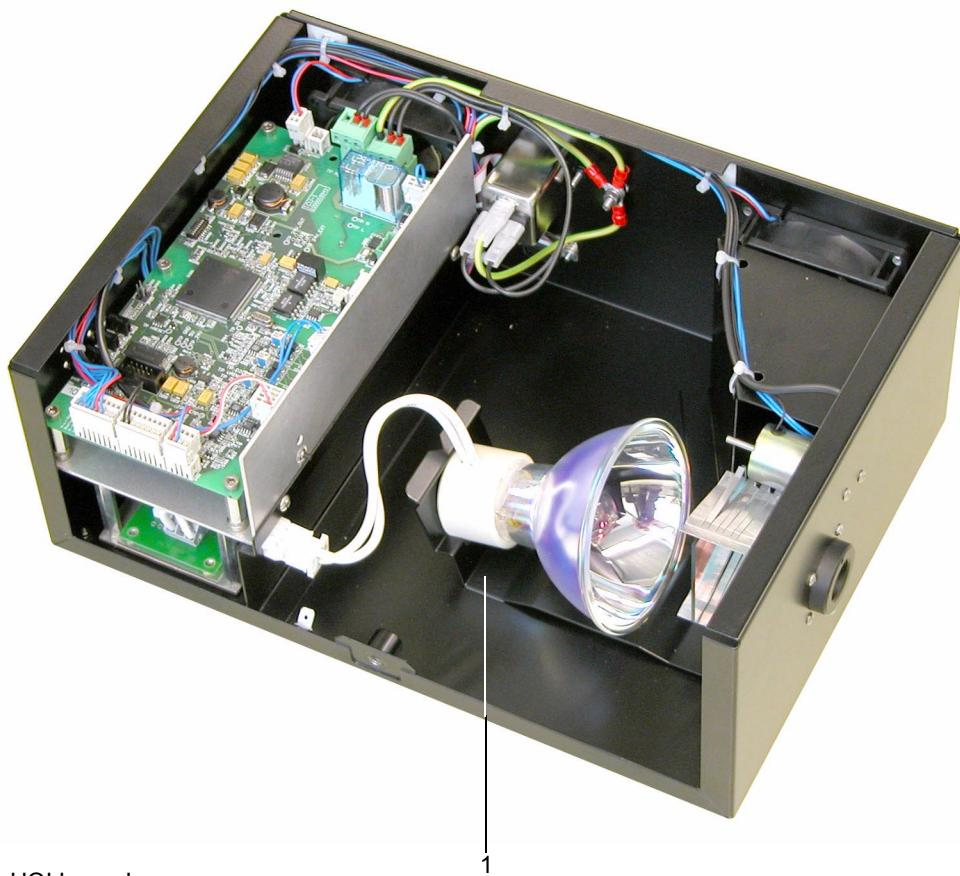
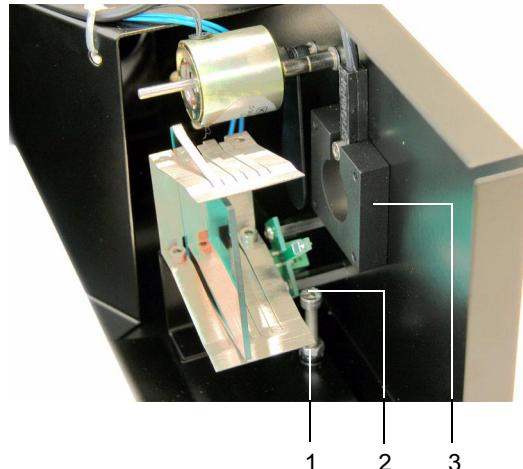

Fig. 14: HQI Lamp Lever
Fig. 15: HQI Lamp Adjustment Screw
Fig. 14: The HQI lamp is mounted on a spring lever (1), which allows adjusting the bulb's height to maximize the intensity of the light. You adjust the lamp with the adjustment screw under the fiber connector (**Fig. 15 (3)**). To adjust the height, proceed as follows.
1. **Fig. 15:** Loosen the lock nut (1).
2. Adjust the height of the HQI bulb by turning the adjustment screw (2) in such a way, that the top surface of the spring lever (Fig. 14 (1)) is 7.5 mm above the base plate of the HQI illumination module.